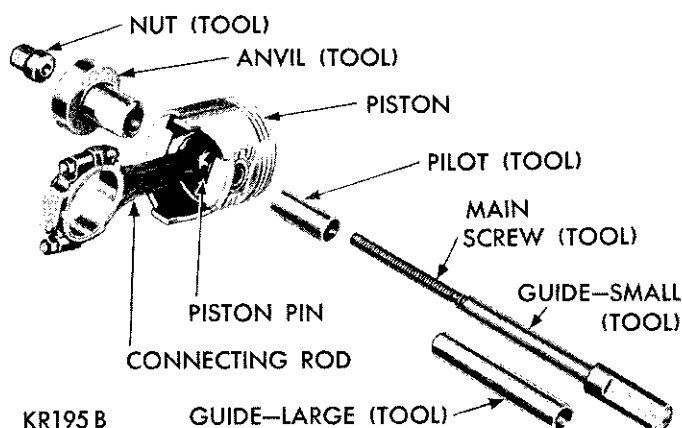
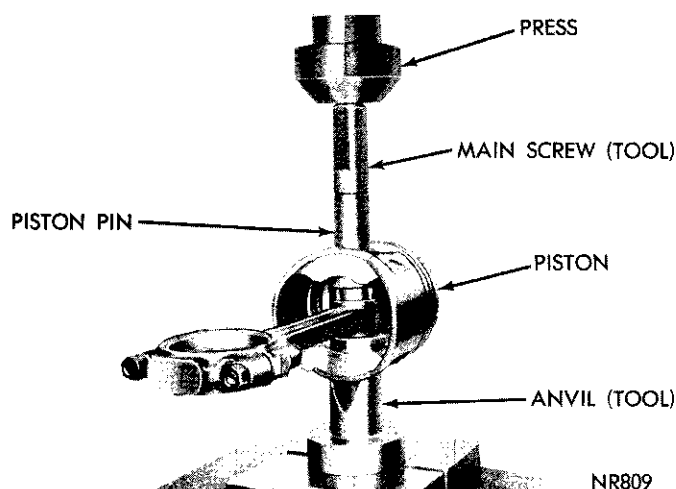

Fig. 38—Tool Arrangement for Removing Piston Pin
Fig. 41—Installing Piston Pin
(1) Arrange Tool C-3684 parts for removal of piston pin, (Fig. 38).
(2) Install pilot on main screw.
(3) Install main screw through piston pin.
(4) Install anvil over threaded end of main screw with small end of anvil against piston boss. **Be sure spring is removed from anvil.**
(8) Install nut on puller screw to hold assembly together. Place assembly on a press (Fig. 41).
(9) Press piston pin in until piston pin "bottoms" on the pilot. This will position pin in connecting rod.
(10) Remove tool and arrange tool parts and piston assembly in same manner (Fig. 38).